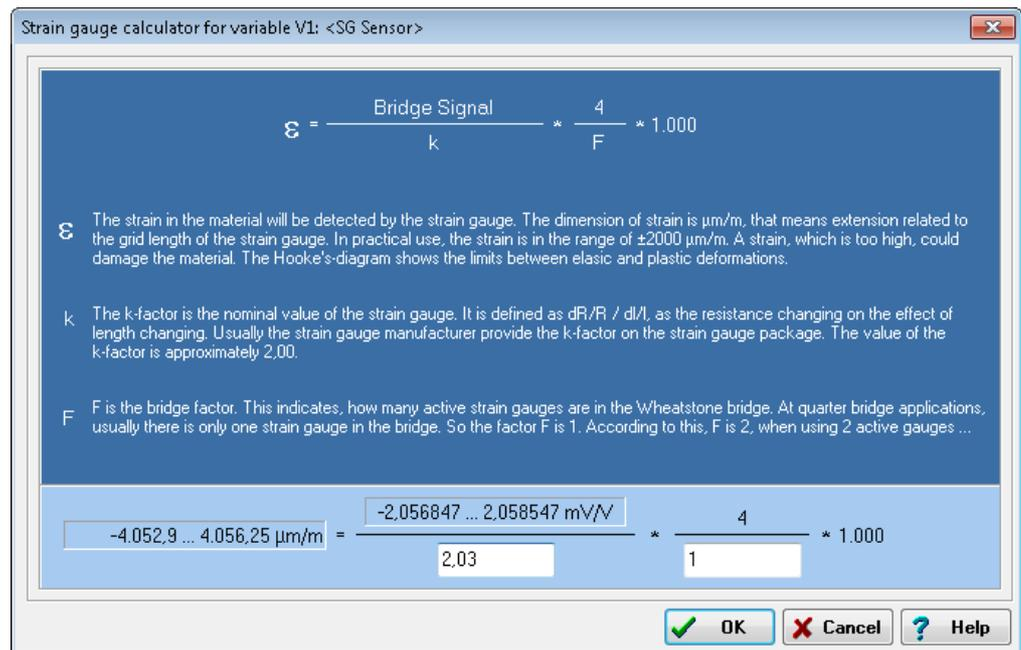

Fig. 7-3 Scaling dialog for strain gauges.
2. Enter the gauge factor of your strain gauge in the left field. The gauge factor is a measure of the sensitivity of the strain gauge and is stated on each strain-gauge pack. It is usually between 1.8 and 2.2. Fig. 7-3 shows scaling with $k = 2.03$.